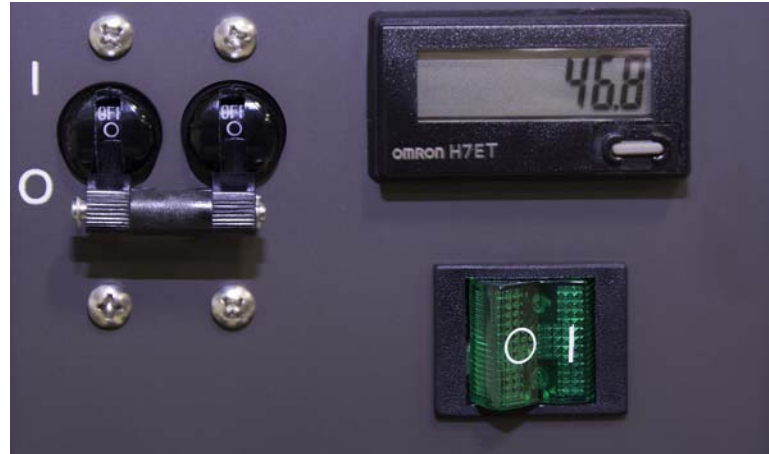

FIGURE 3-14 Compressor main power
1. Ensure that both the black circuit breaker power switch to the compressor, and the green ON/OFF switch are off (FIGURE 3-14).